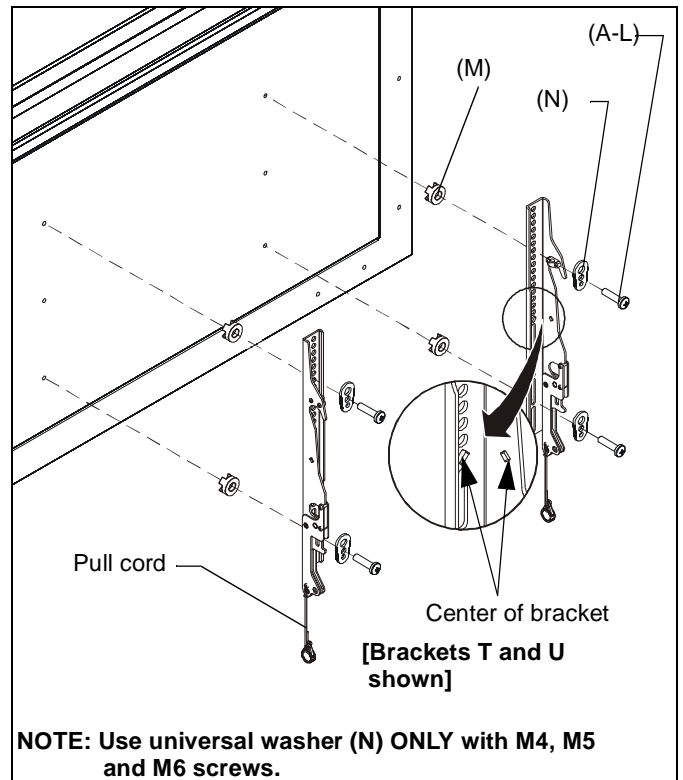

Figure 6
1. Align the center of the bracket (T and U) with center of screen. (See Figure 6)
2. Select correct screws, nesting spacers (if necessary) and universal washers (if required) from the hardware bag (A-N) and attach brackets to back of screen. (See Figure 6)